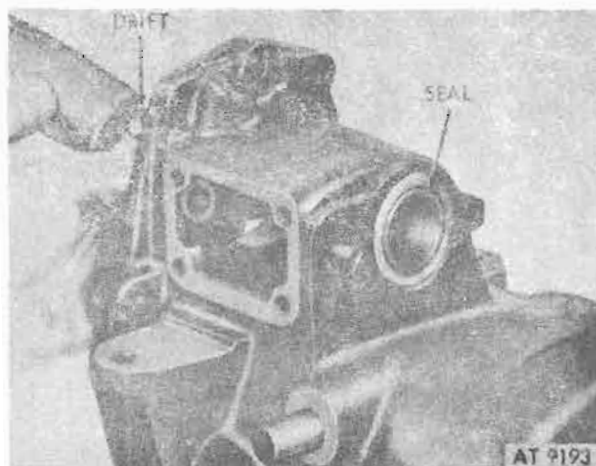

Figure 8-60. Removing front output shaft seal.
j. Using drift or punch, remove front output shaft seal from transmission case bore (fig. 8-60).